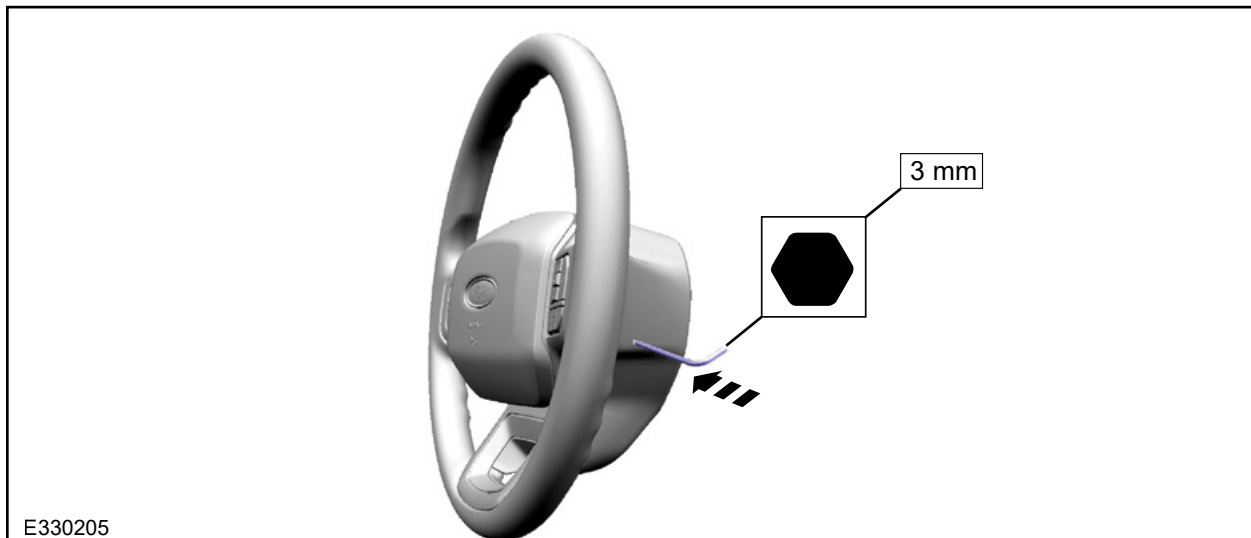

FIGURE 4
5. At the side of the steering wheel, locate the hole and insert a 3 mm (0.125 inch) Allen key. See Figure 4.